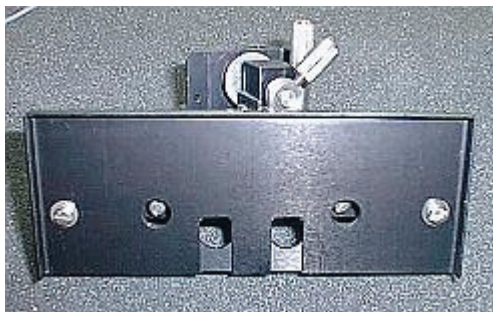

Figure 51 Adjustment screws
9. Using a flat screwdriver, turn the two adjustment screws shown in Figure 51, to optimize the signal.